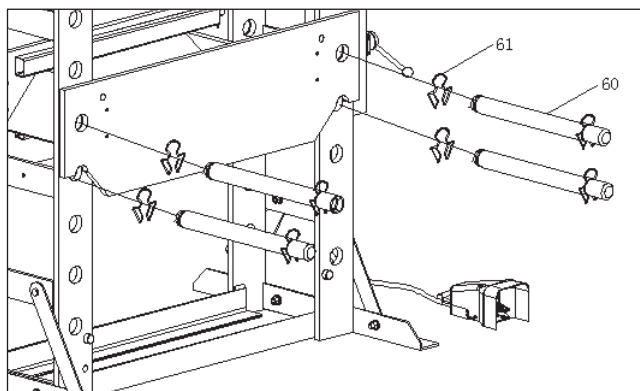

Fig. 10
- Take out the pin (60) and retainer ring (61). Insert the pin (60) to the hole on the frame, then fix the retainer ring (61) (refer to Fig. 10).